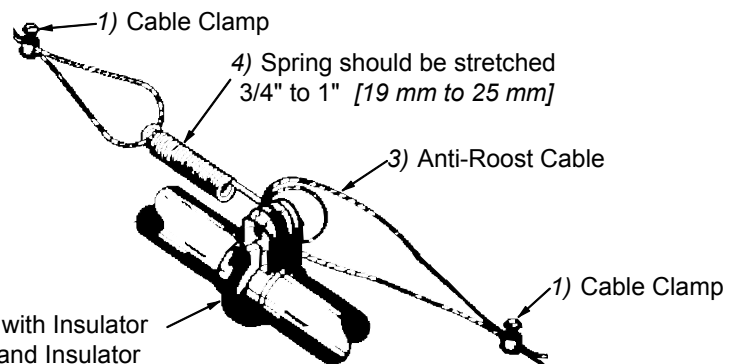

Figure 49. Anti-Roost Cable at the Hopper
4. Attach a spring in the center groove at the second anti-roost bracket and cut the cable at this point, see figure 49.
5. Thread the ends of the cable through the end of the spring. Pull the cable tight so there is 3/4" to 1" (20 to 25 mm) of stretch in the spring. Clamp the cable to form a loop and cut off any excess, see figure 49.
6. Attach the cable to the insulator. For best results, make a double loop around the anti-roost insulator in the center groove of the insulator and fasten with a 1/16" cable clamp as shown in Figure 49.